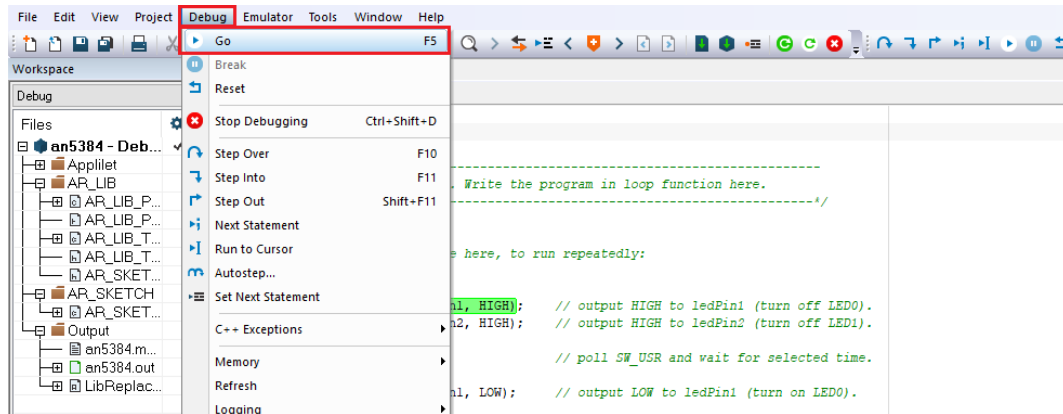

Figure 3.39 Starting execution of program (sketch) (IAR)
To execute the program downloaded to the FPB, click on "Debug (D)" on the menu bar, and select "Go (G)" on the pulldown menu (see Figure 3.39).